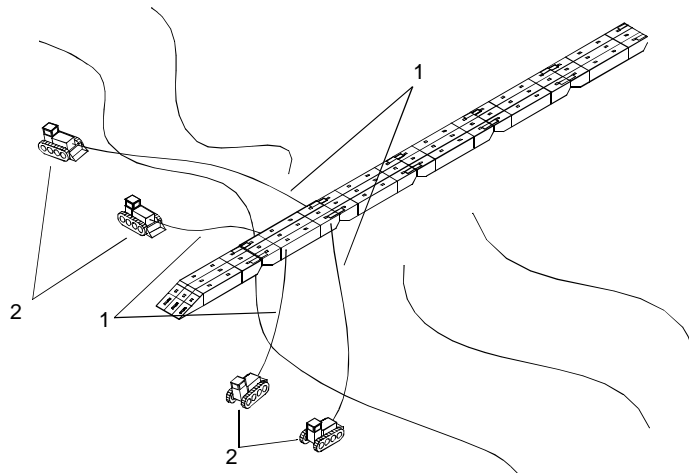
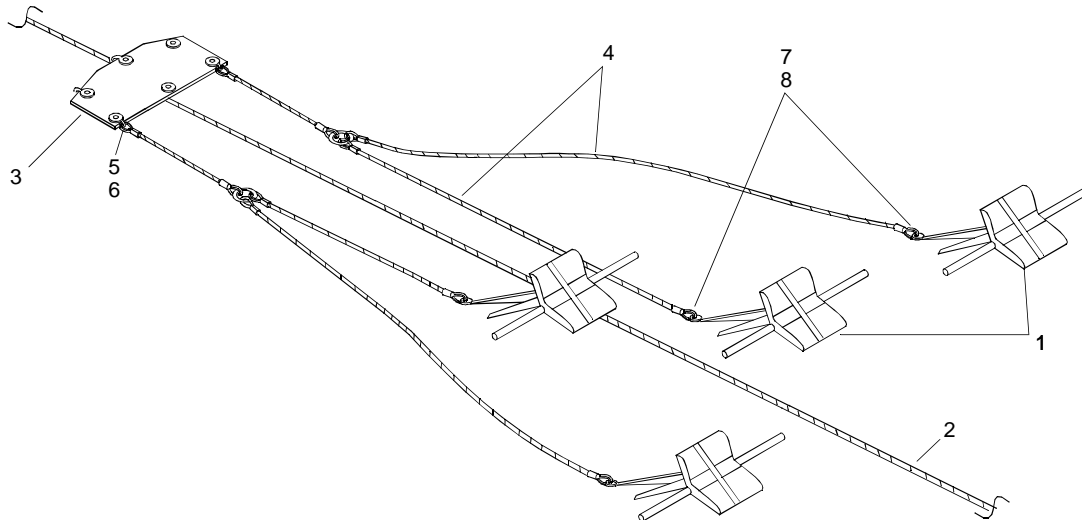

Figure 9. Using Bulldozers to Anchor Mooring Legs
Figure 10. Onshore Mooring Cables and Anchor Bridles
- Attach first pair of mooring cables (figure 9, item 1) to bulldozers (figure 9, item 2).
- Using bulldozers (figure 9, item 2), pull and stretch mooring cables (figure 9, item 1) at 45° angles from FC platform to anchor FC on beach.
1. Position anchors (figure 10, item 1), mooring cables (figure 10, item 2), ground tackle and tensioning gear in approximate locations for mooring leg assembly and placement.
2. Attach first pair of mooring cables (figure 10, item 2) to bulldozers (figure 9, item 2).
3. Using bulldozers (figure 9, item 2), pull and stretch mooring cables (figure 10, item 2) at 45° angles from FC platform to temporarily hold tension on mooring cables (figure 10, item 2) near assembly point.
4. Center flounder plate (figure 10, item 3) on mooring cable (figure 10, item 2).
5. Attach anchor bridle (figure 10, item 4) to flounder plate (figure 10, item 3) with 7/8 in. shackle (figure 10, item 5) and pin (figure 10, item 6).
6. Attach anchor bridles (figure 10, item 4) to anchor shackles with 1/2 in. shackle (figure 10, item 7) and pin (figure 10, item 8).
7. Space anchors (figure 10, item 1) wide enough apart to prevent anchor nearest flounder plate (figure 10, item 3) from pulling up on adjacent anchor bridle (figure 10, item 4) leg as the anchor digs in.